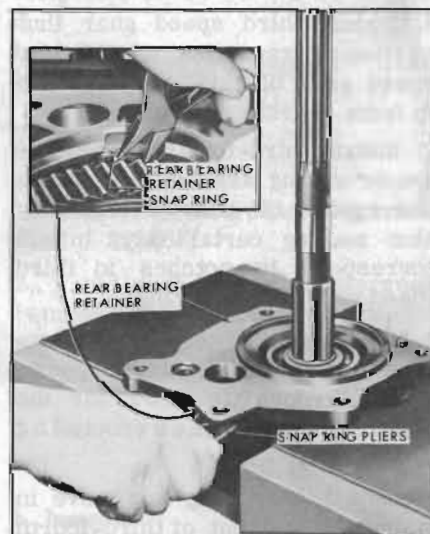

Figure 72-410—Removing Rear Bearing From Retainer
2. Spread rear bearing retainer snap ring and press mainshaft out of retainer. See Figure 72-410.